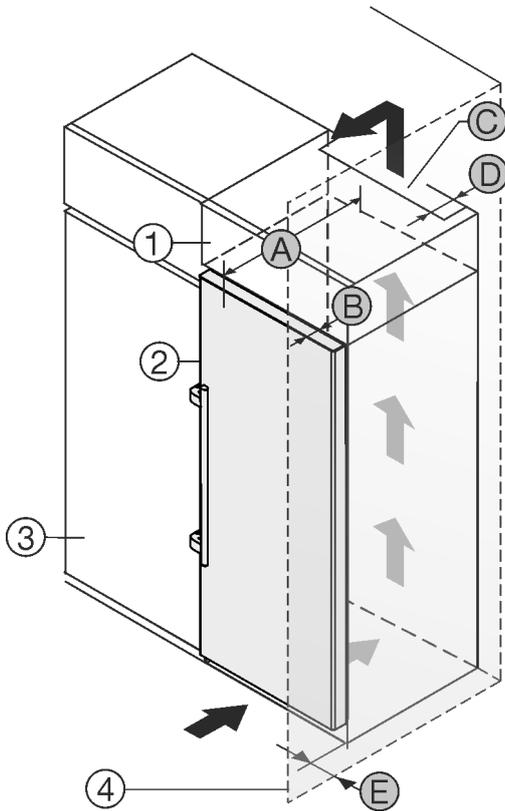

Fig. 2
- (1) Top cabinet*
- (2) Appliance*
- (3) Kitchen cabinet*
- (4) Wall*
- (A) Appliance depth*
- (B) Door depth*
- (C) Ventilation cross section*
- (D) Distance to the back of the appliance*
- (E) Distance to the side of the appliance*
You can place the appliance directly beside the kitchen cabinet Fig. 2 (3)*.
There must be a ventilation shaft at the depth Fig. 2 (D) of the back of the top cupboard over the entire width of the top cupboard.*
The ventilation cross-section Fig. 2 (C) must be maintained under the ceiling.*
If the appliance is set up with the hinges next to a wall Fig. 2 (4), the distance between the appliance and the wall must be at least 57 mm. This is how far the handle protrudes when the door is open.*
In order to be able to fully open the door, the appliance must protrude by the depth of the door Fig. 2 (B) from the front of the kitchen cabinet. The appliance may protrude further depending on the depth of the kitchen cabinets Fig. 2 (3) and whether wall spacers are used.*